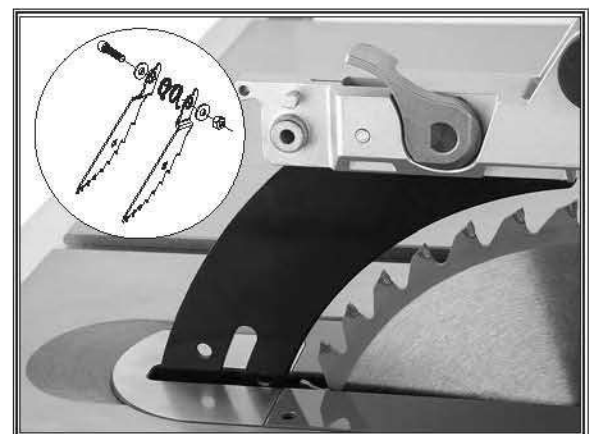

Figure 52. Pawls Removed.
2. Remove cap screw, locking hex nut, washers, pawls, and retaining spring from blade guard assembly (see **Figure 52**).